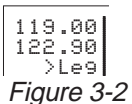

Figure 3-2
2. Make sure the left inner knob is pushed in, and use it to complete the desired frequency. In this case, the left inner knob changes the frequency in increments of 0.05 MHz (50 kHz) (figure 3-2). Note that the left inner knob must be rotated three clicks clockwise to go from 122.75 MHz to 122.90 MHz.
1. Use the left knobs to tune the standby COMM frequency, such as 122.90 MHz (figure 3-2 above).